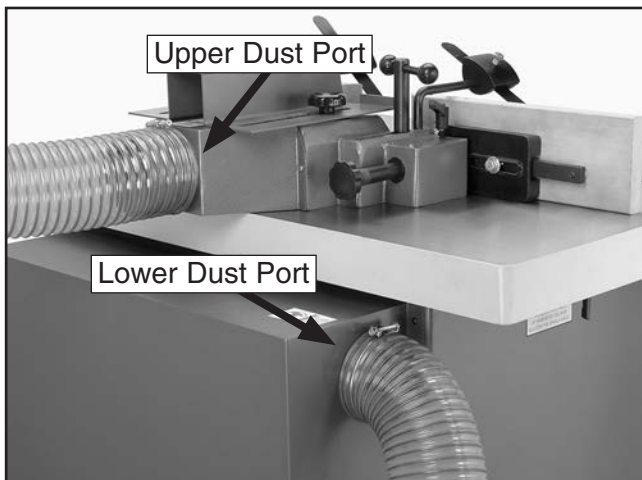

Figure 16. Dust hoses attached to dust ports.
1. Fit a 5" dust hose over each dust port, as shown in **Figure 16**, and secure in place with hose clamp.